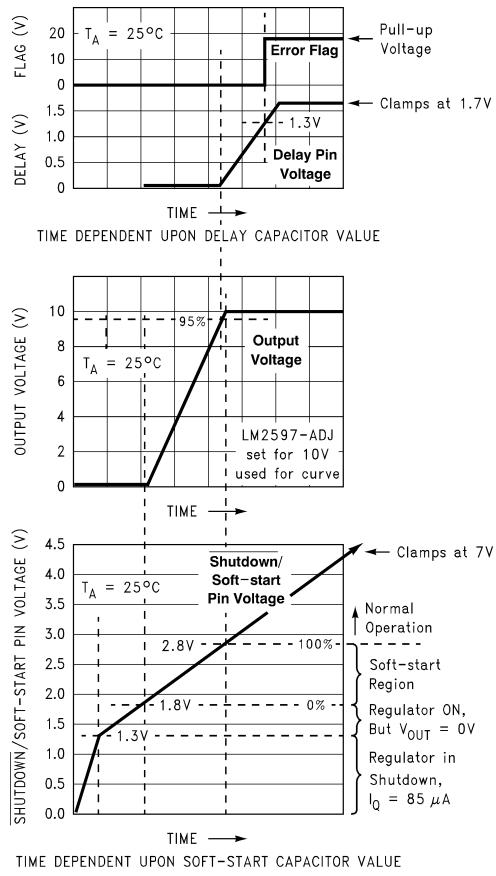
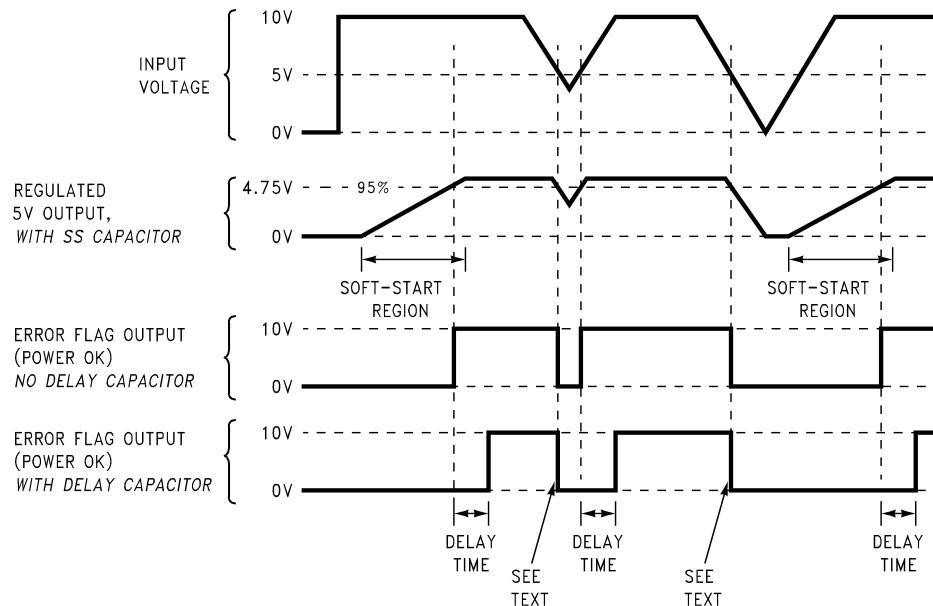

Figure 31. Soft-Start, Delay, Error, and Output
Figure 33. Timing Diagram for 5-V Output
A capacitor on this pin provides the regulator with a soft-start feature (slow start-up). When the DC input voltage is first applied to the regulator, or when the Shutdown/Soft-start pin is allowed to go high, a constant current (approximately 5 μ A) begins charging this capacitor. As the capacitor voltage rises, the regulator goes through four operating regions (see the bottom curve in Figure 31).
3. Soft-start Region – When the \overline{SD}/SS pin voltage is between 1.8 V and 2.8 V (at 25°C), the regulator is in a soft-start condition. The switch (Pin 8) duty cycle initially starts out very low, with narrow pulses and gradually get wider as the capacitor \overline{SD}/SS pin ramps up towards 2.8 V. As the duty cycle increases, the output voltage also increases at a controlled ramp up. See the center curve in Figure 31. The input supply current requirement also starts out at a low level for the narrow pulses and ramp up in a controlled manner. This is a very useful feature in some switcher topologies that require large start-up currents (such as the inverting configuration) which can load down the input power supply.
The lower curve shown in Figure 31 shows the soft-start region from 0% to 100%. This is not the duty cycle percentage, but the output voltage percentage. Also, the soft-start voltage range has a negative temperature coefficient associated with it. See the soft-start curve in Electrical Characteristics.
Provides delay for the error flag output. See the upper curve in Figure 31, and also refer to timing diagrams in Figure 33. A capacitor on this pin provides a time delay between the time the regulated output voltage (when it is increasing in value) reaches 95% of the nominal output voltage, and the time the error flag output goes high. A 3- μ A constant current from the delay pin charges the delay capacitor resulting in a voltage ramp. When this voltage reaches a threshold of approximately 1.3 V, the open collector error flag output (or power OK) goes high. This signal can be used to indicate that the regulated output has reached the correct voltage and has stabilized.